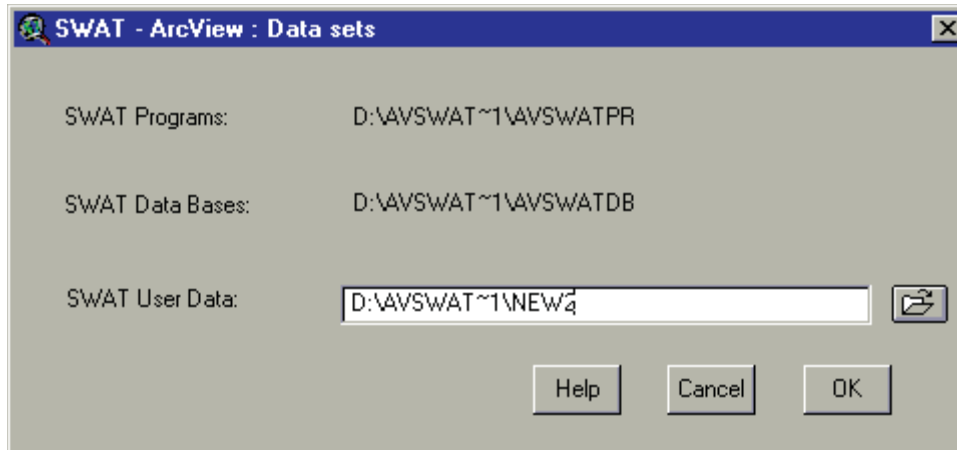

Figure 4.11
2. A prompt box will appear which shows the locations of data and programs used by the interface (Figure 4.11). While the SWAT ArcView interface will automatically set the locations of **SWAT Programs** and **SWAT Databases** upon installation, the **SWAT User Data** directory needs to be defined for every new project.